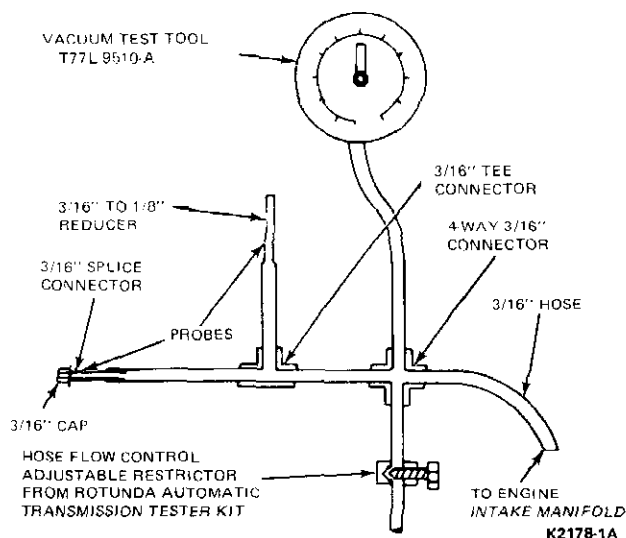

FIG. 5 Vacuum Test Probe
the other test hose is plugged, or both the 3/16" and 1/8" tester probes (see Fig. 5) can be used at the same time.
2. Turn the by-pass valve to the vent position. If the headlamp covers have opened, check the hoses and connectors between the by-pass valve and the headlamp switch for kinks and obstructions (Fig. 5).